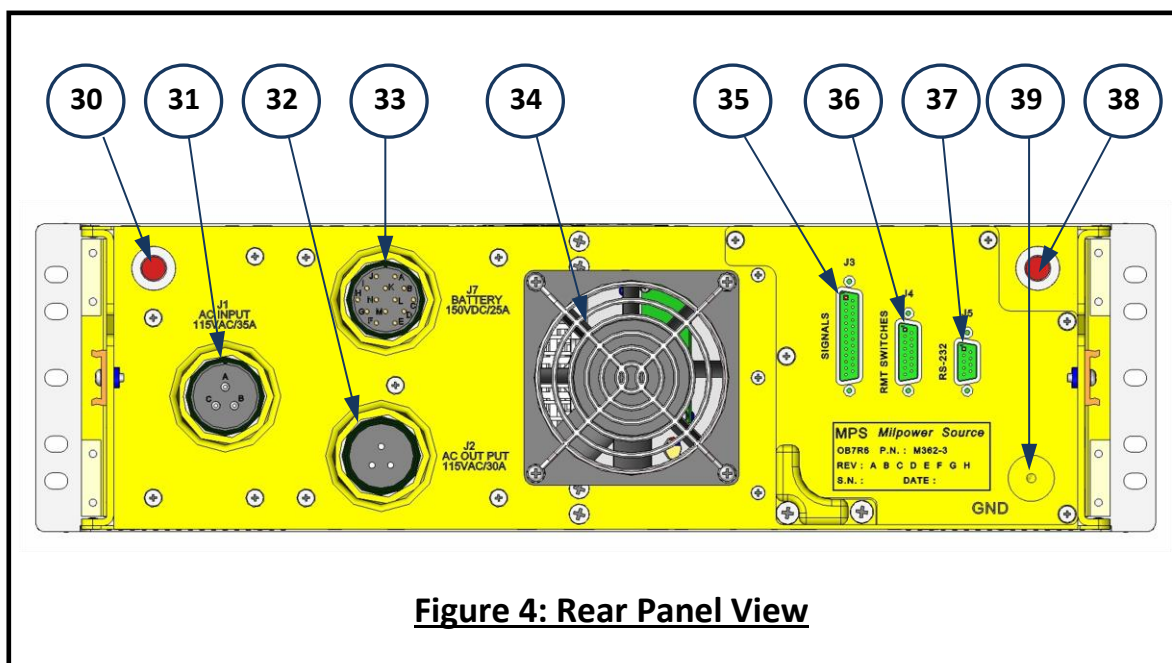

Figure 4: Rear Panel View
3. Visual Indicators and Controls (for detailed view see Figure 4)
4. Rear Panel Description (Figure 4)